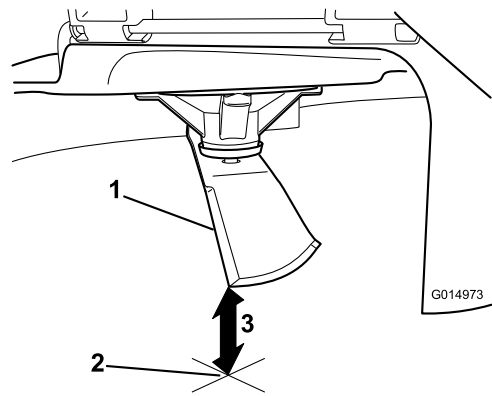

Figure 102
3. Measure from the tip of the blade to the flat surface (Figure 102).